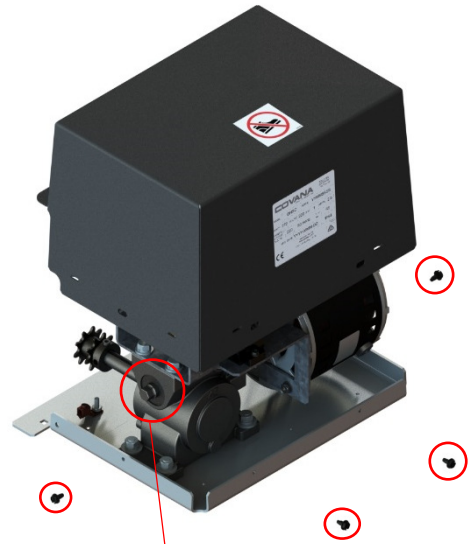

Figure 14
- 2) Remove the four screws at the bottom of the operator cover and take the cover off. (Figure 14)
- 6) Reinstall the operator cover with the four screws. (Figure 14)